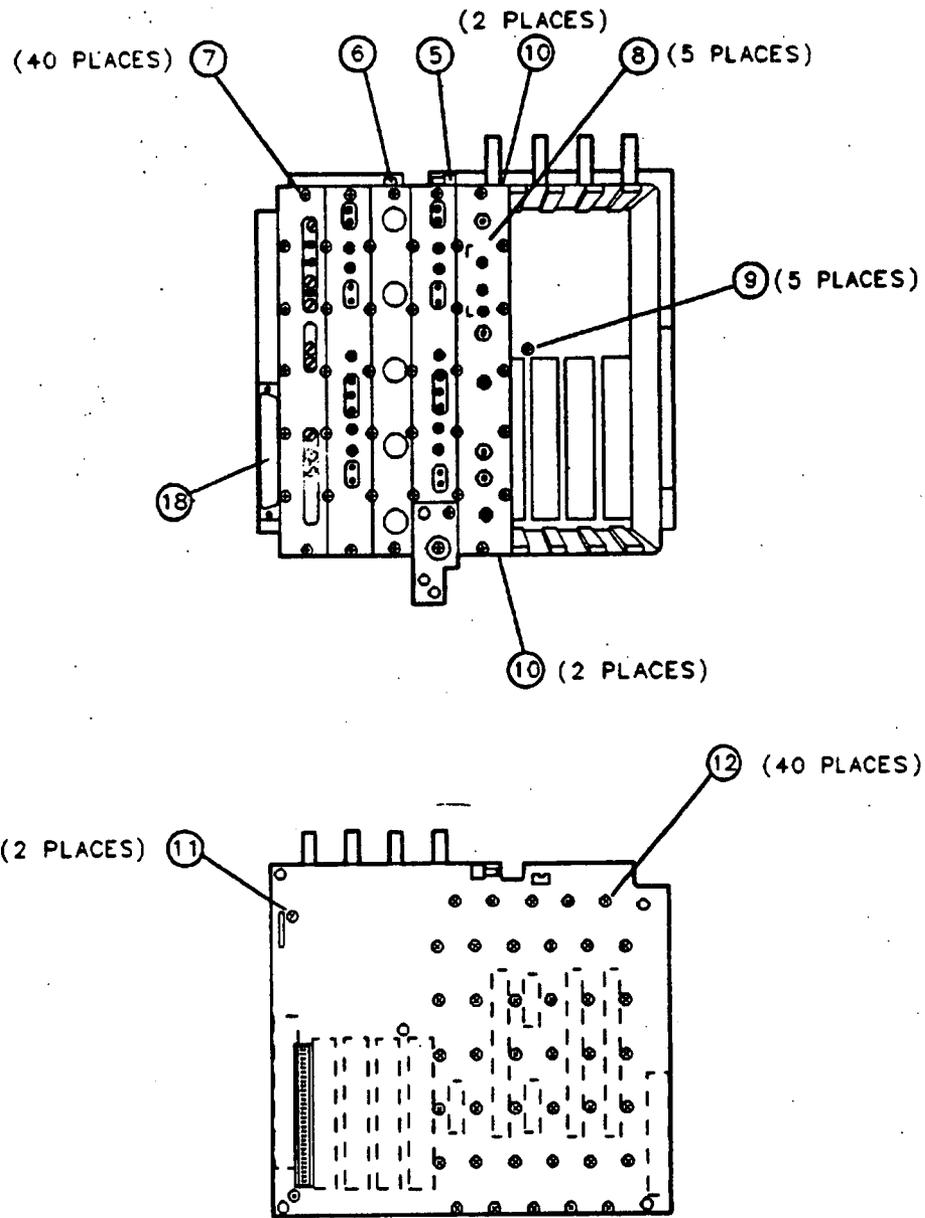

Figure 3-30. A15 Motherboard with IF Section
4. Remove the four screws and flat washers (2) that secure the A7 Analog Interface assembly to the right side of the instrument chassis.
6. Pull the A7 assembly partially out of its slot and disconnect W12, W13, W34, W35, and W36 (3) from the A7 assembly.
8. Remove the two screws (4) on the front-end-to-IF support bracket.
9. Disconnect the W19 coaxial cable (5) from the A15J18 at the rear of the instrument. See Figure 3-30.
10. Disconnect the B1 Fan wire harness (6) from A15J19 at the rear of the instrument.
11. Remove the 40 screws (7) that secure the five IF board assemblies in the IF extrusion assembly.
The IF extrusion assembly contains one flat extrusion end-section. Make sure that the extrusion assembly is positioned with the flat extrusion end-section next to the A8 Power Supply connector (18). See Figure 3-30.